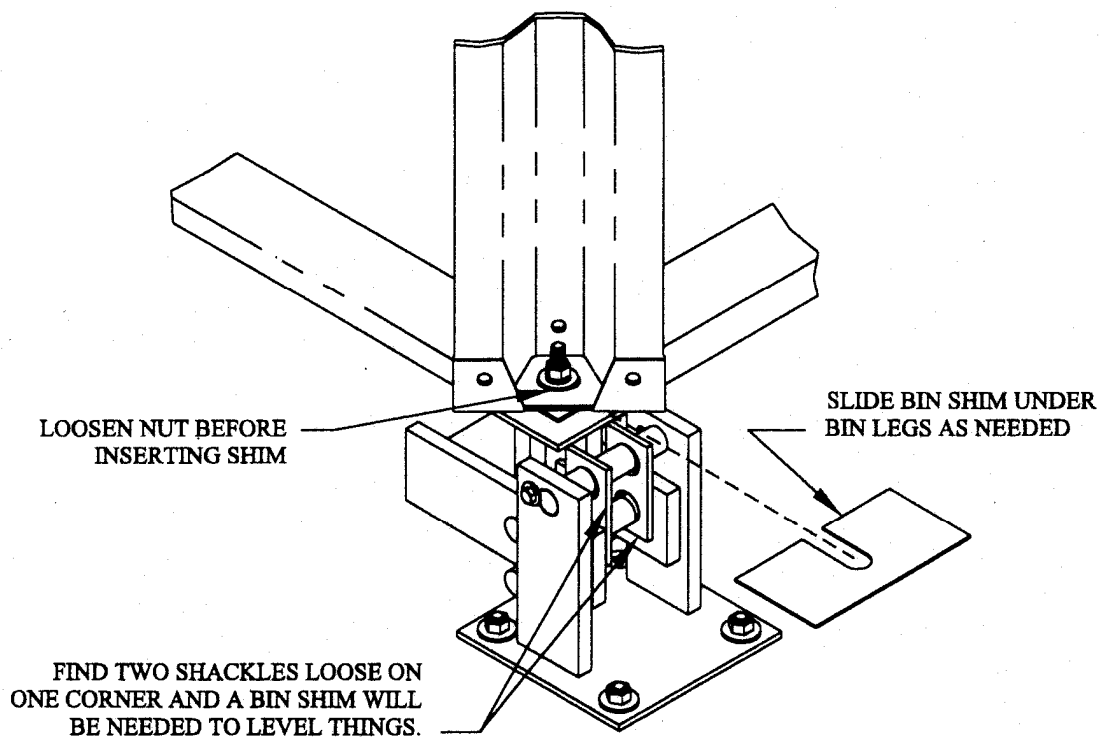

FIG. 5
- ☐ 5) Make sure that bin does not rock diagonally. To check this, step on each corner of the bin leg. If it rocks, shims are needed. See Fig. 5.